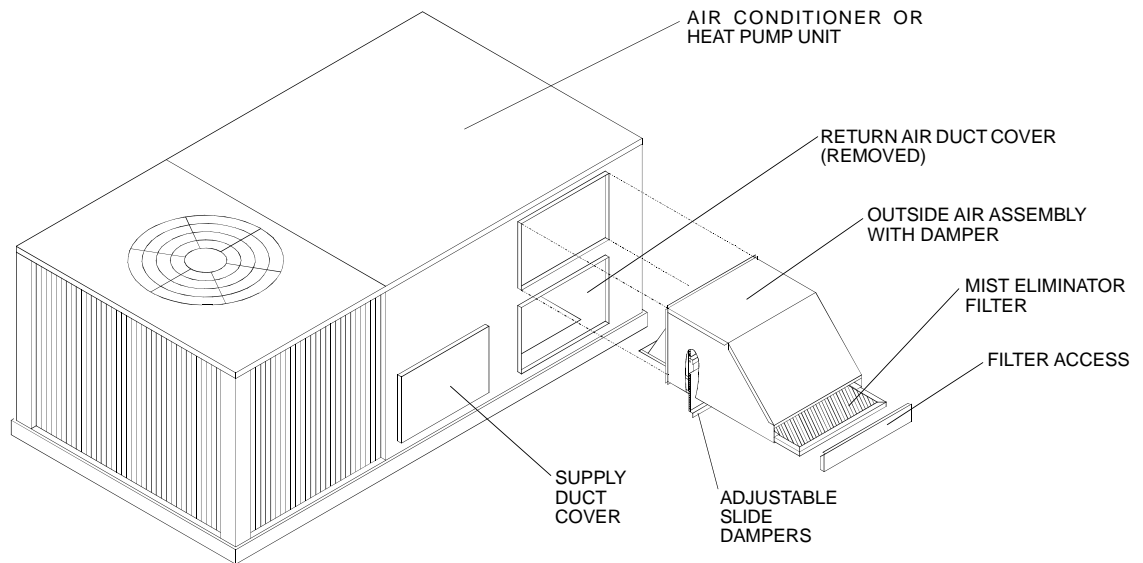

FIG. 1 - MOTORIZED OUTDOOR AIR DAMPER
4. Install outside air assembly as shown in Figure 1 over duct opening with the screws removed in Step 2.